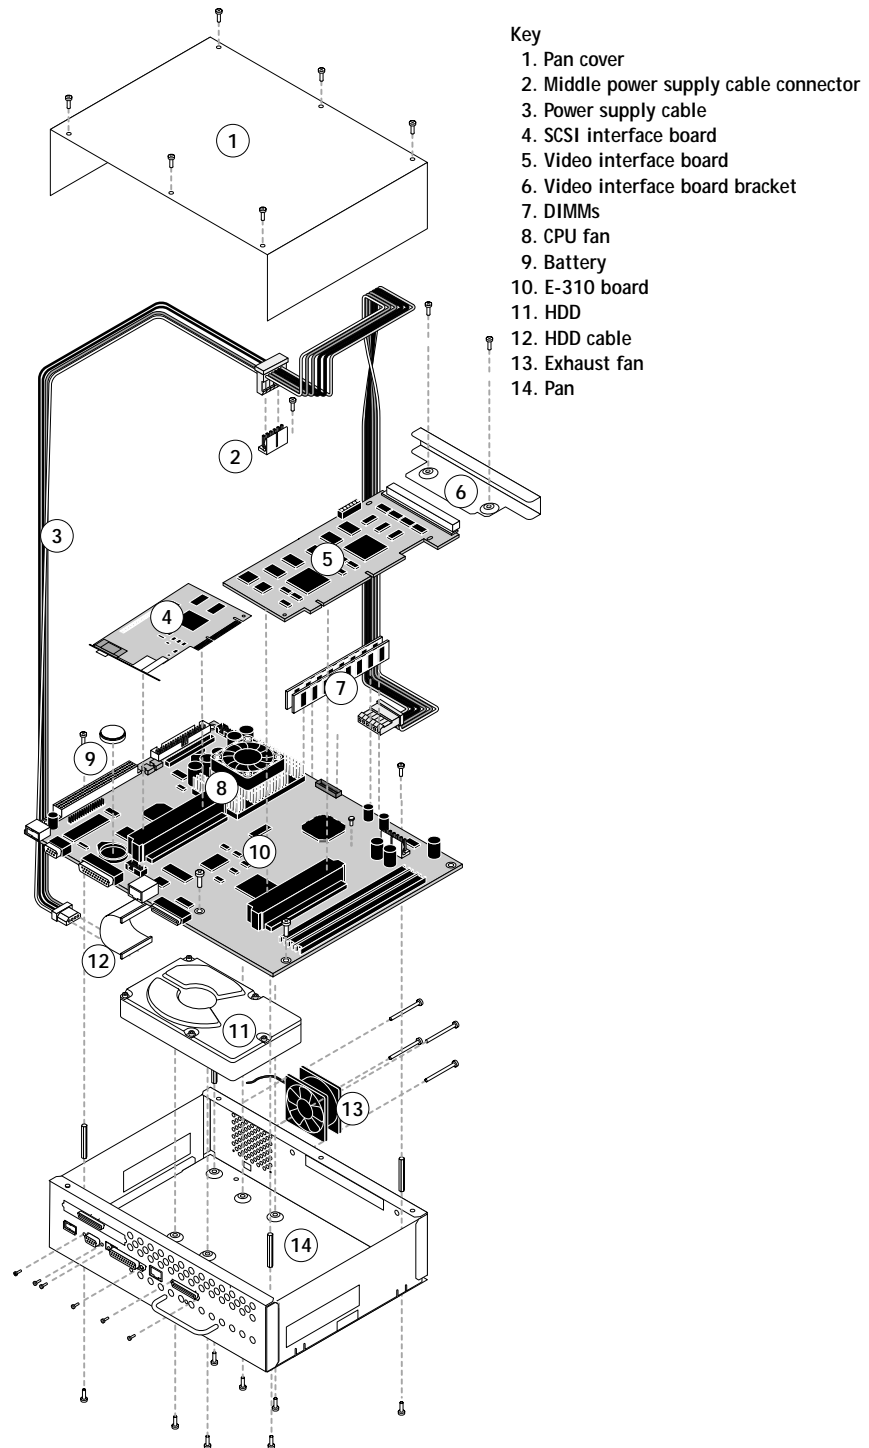

FIGURE 4-1 Exploded view of E-310
See Figure 4-1 on page 4-2 for an overview of E-310 board components. Replacement parts are available from your authorized service representative.
5. Remove the connector bracket from the pan (see Figure 4-1 on page 4-2). Set the two screws and the connector bracket aside so you can replace them later.
6. Remove the support bracket from the pan (see Figure 4-1 on page 4-2). Set the two screws and the support bracket aside so you can replace them later.